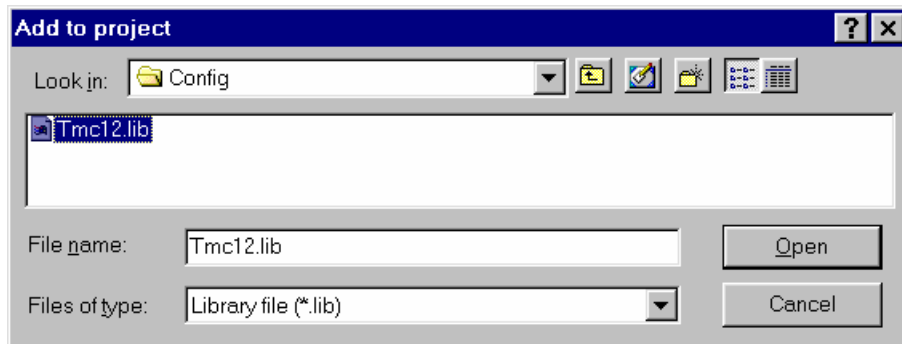

Figure 2-5-3. Select the library to include.
Refer to Figure 2-5-3.
For example: “TMC12.Lib”. Refer to Figure 2-5-3.
Step 6: Click the button “Open”. Refer to Figure 2-5-3.